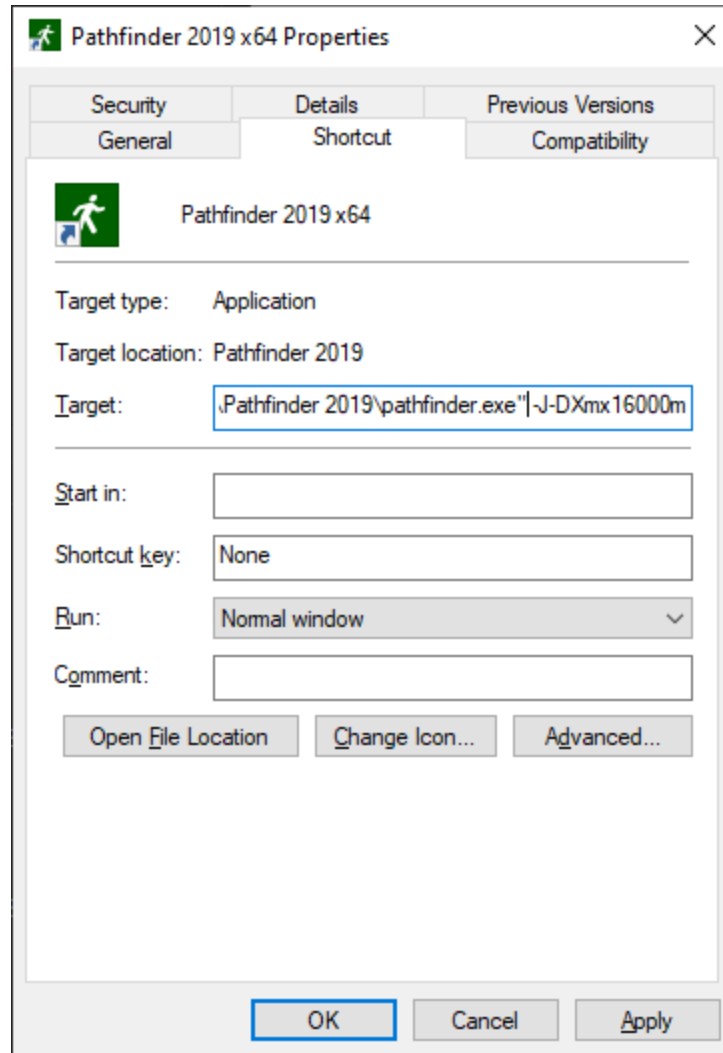

Figure 166. Example Shortcut Dialog
4. At the end of the **Target** field, type a space on the keyboard and then `-J-DXmx16000m`. The shortcut dialog will look similar to Figure 166.